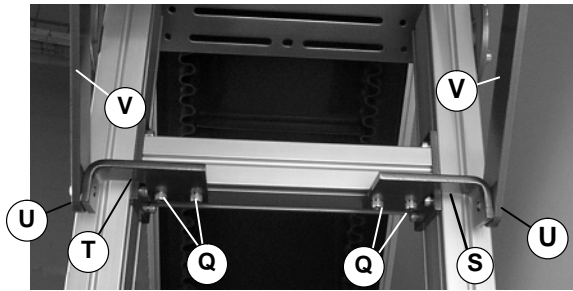

Figure 5
3. Loosely attach right offset plate (S of Figure 5) to nuts (R) with two (2) screws (Q).